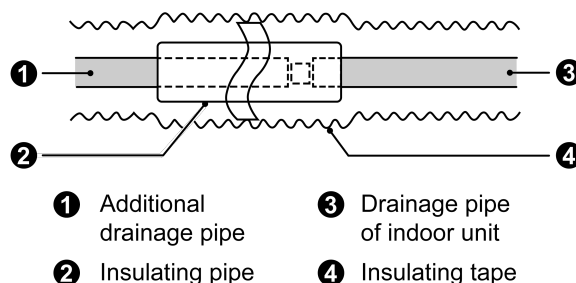

Fig.4.3.1
- (1) It is not allowed to connect the condensate drain pipe into waste pipe or other pipelines which are likely to produce corrosive or peculiar smell to prevent the smell from entering indoors or corrupt the unit.
- (2) It is not allowed to connect the condensate drain pipe into rain pipe to prevent rain water from pouring in and cause property loss or personal injury.
- (3) Condensate drain pipe should be connected into special drain system for air conditioner.
- (4) The drainage pipe should be short and the gradient downwards should be at least 1%~2% in order to drain condensation water smoothly.
- (5) The diameter of drainage hose should be bigger or equal to the diameter of drainage pipe joint.
- (6) Install drainage pipe according to the following Fig. and arrange insulation to the drainage pipe (Fig.4.3.1). Improper installation may lead to water leakage and damp the furniture and other things in the room.
- (7) You can buy normal hard PVC pipe used as the drainage pipe. During connection, insert the end of PVC pipe into the drainage hole and then tighten it with drainage hole and wire binder. Can't connect the drainage hole and drainage hole with glue.
- (8) When the drainage pipelines are used for several units, the position of pipeline should be about 100mm (4inch) lower than the drainage port of each unit. In this case, thicker pipes should be applied.